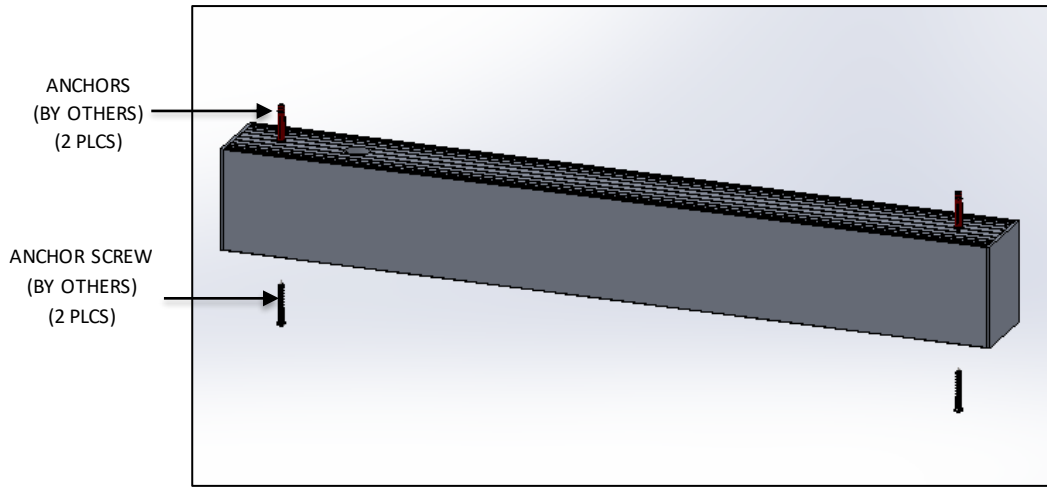

FIG. 6 –ANCHORS INSTALLATION
4. Install the conduit with the supply wires onto the fixture and secure the nut. Raise the fixture and secure with the appropriate ANCHORS (By others) as shown in FIG.6.